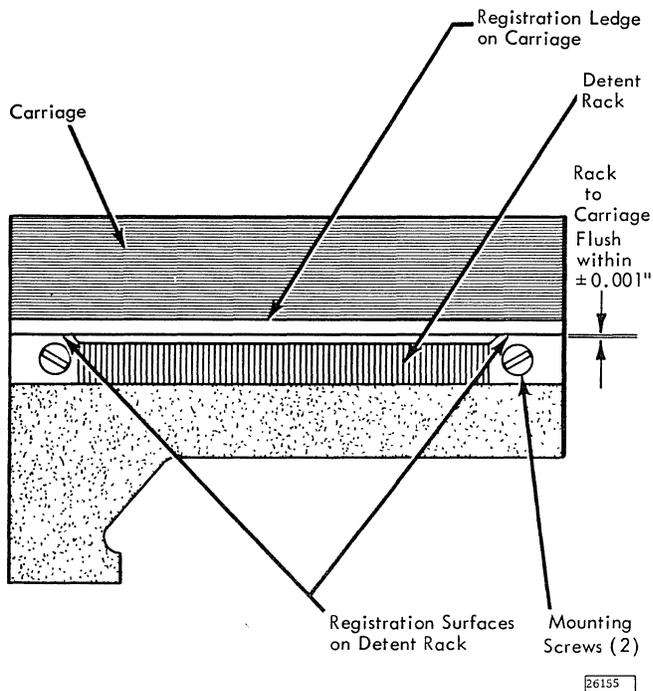

Figure 7-4. Detect Rack, Removal and Replacement
2. Remove two binding-head mounting screws that secure detent rack (Figure 7-4) to the carriage.
1. Place detent rack in position shown in Figure 7-4. Press upward on rack to ensure contact between registration surfaces on detent rack and registration ledge on carriage (Refer to section 7.7.4 for details of adjustment).
NOTE: Adjustment of the detent rack (Figure 7-4) is accomplished during replacement and should never be loosened or readjusted after it is initially installed on the carriage.